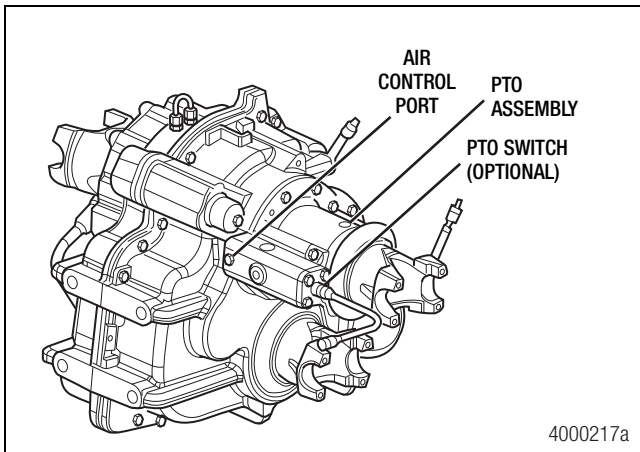

Figure 8.6
1. Connect a regulated air pressure line to the air control port. Figure 8.6.